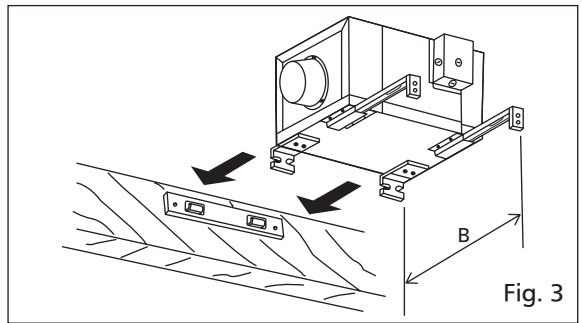

Fig. 3
- Insert the holder, located on the unit, into the hanger. (Fig.3)